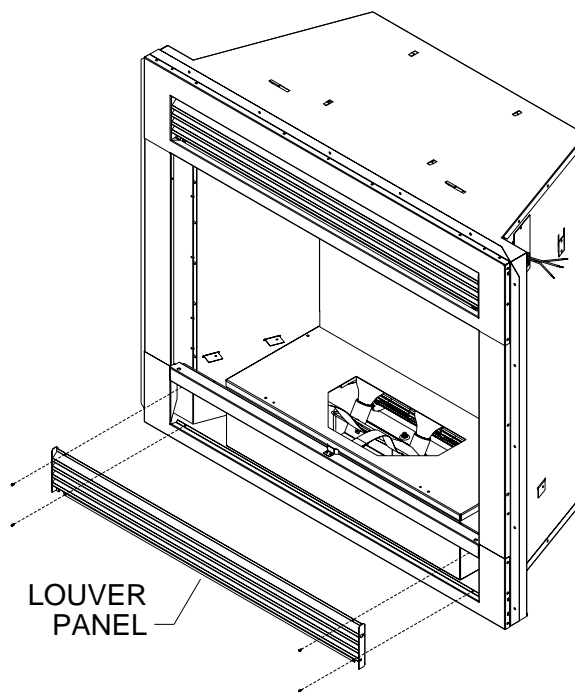

Figure 41 - Removing Lower Louver Panel
1. Remove 4 Hex screws on the lower louver panel and detach the louver assembly from the front face. See **Figure 41**, page 18.